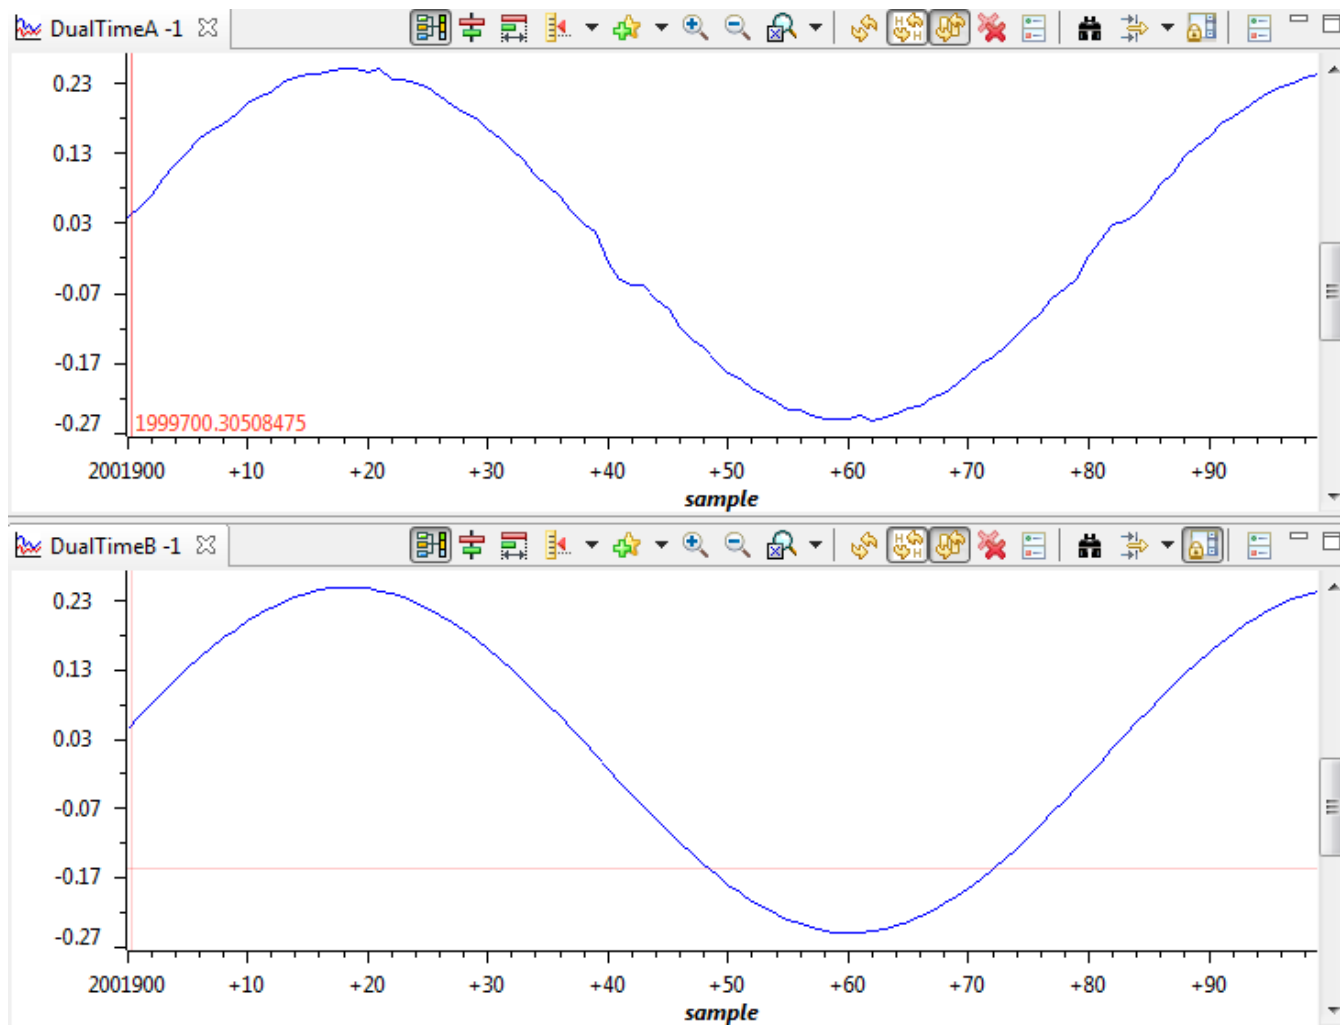

Figure 43. CCS Graph Window of Closed Current Loop Operation
8. The closed loop operation can be further verified by viewing the DBUFF3 and DBUFF4 values in the graph window as they display the reference current instantaneous and measured current instantaneous. Real time graphs can be added using the procedure outlined in the open loop test for the inverter. Figure 43 shows the measured and reference current for a 0.25 pu current command. Observe the graphs change by changing the inv_Iset command. Ensure the load power rating matches the power going into the resistor.